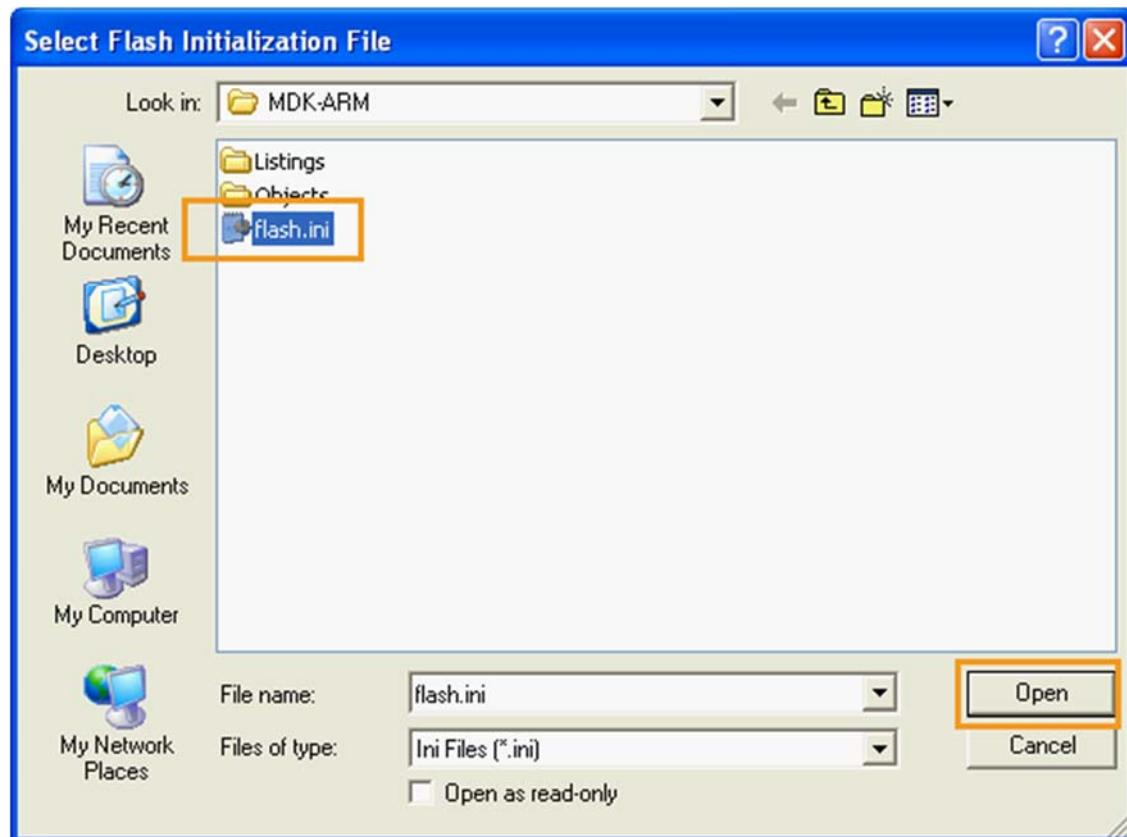

*Figure 40. Set download configuration on µVision IDE*
- 3) Click **Options for Target** or navigate to **Project**, then **Options for ...** and select **Target** on the main menu of the IDE (see Figure 40).
- 1) Click **Options for Target** or navigate to **Project**, then **Options for ...** and select **Target** on the main menu of μVision IDE, as shown in Figure 40.
- 5) Click **Options for Target** or navigate to **Project**, then **Options for ...** and select **Target** on the main menu of, as shown in Figure 40.